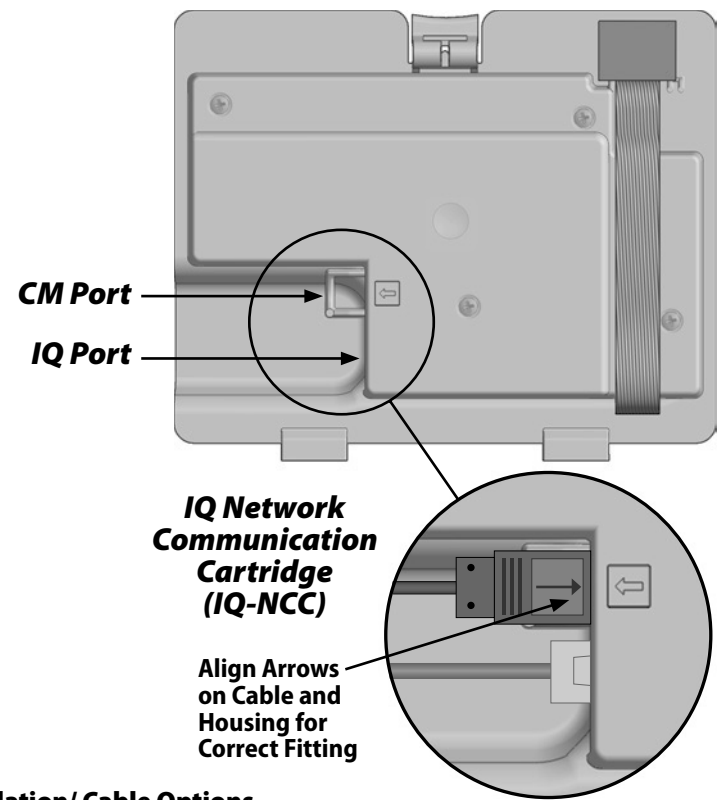

Figure 4 - Installation/ Cable Options
- 2 Connect the IQ Port cable or antenna to the cartridge (see Fig. 4). This cable or antenna provides the communication to the IQ computer.
- 3 Connect the CM Port cable to the cartridge that applies to the intended configuration (see Fig. 4). Two CM Port cables are included in the box with each cartridge, one straight cable and one Y-cable. The cable that is required depends on the controller configuration: